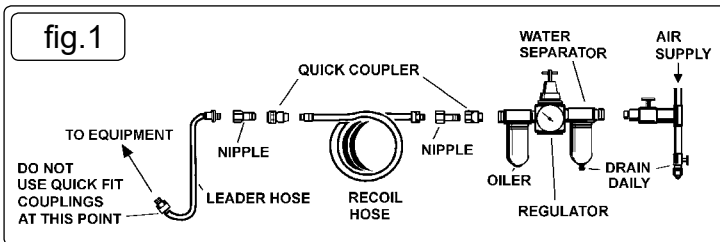

fig.1
- 4.1.1. Recommended hook-up procedure is shown in fig.1.
- 4.2.1. Vibration may cause failure if a quick change coupling is connected directly to the air drill. To overcome this, connect a leader hose - Sealey model number AH2R or AH2R/38 - to the drill. A quick change coupling may then be used to connect the leader hose to the air line recoil hose. See figs.1 & 2.